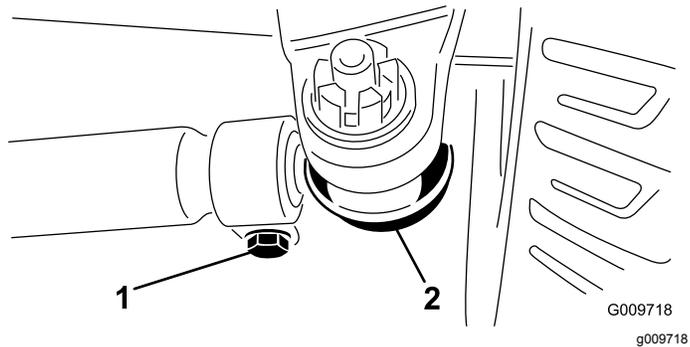

Figure 73
- To adjust, remove the cotter pin and nut from either tie rod ball joint (Figure 73). Remove the tie-rod ball joint from the axle-case support.
- Loosen the clamps at both ends of the tie rods (Figure 73).